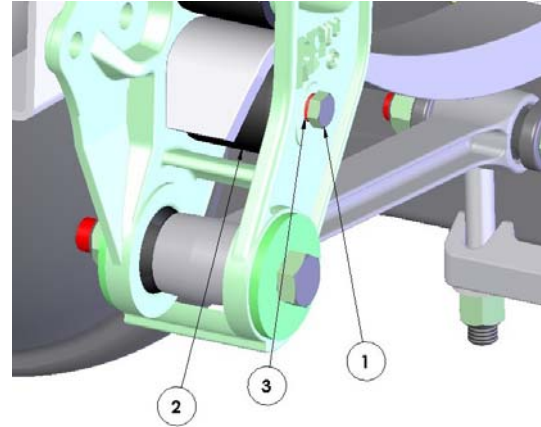

Figure 3
3. Remove bushing (Item 2) from spring hanger. (Figure 3)